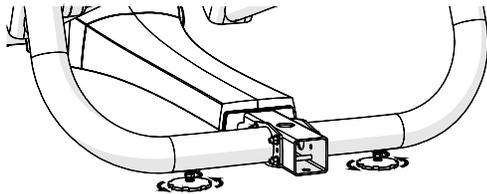

Figure 21
3. Correct the height of each adjustable foot as follows (see Figure 21):